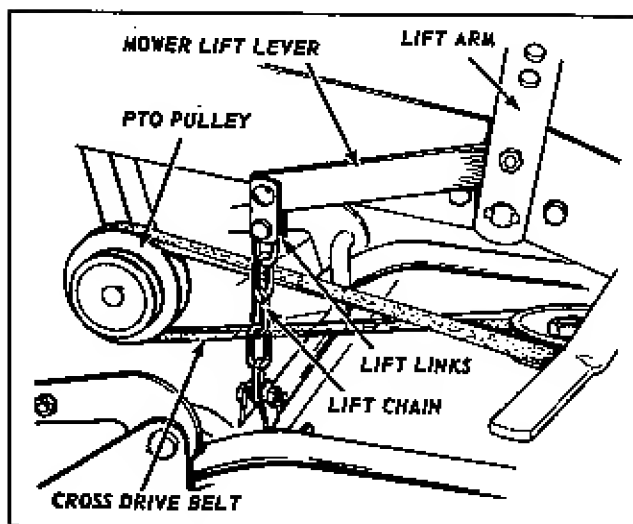

FIG. 3
3. Place the tractor lift lever in its rear position and attach the mower lift lever to the tractor lift arm on right hand side of tractor as shown in figure 3. Use hex capscREW, flatwashers, and hex nut furnished for this purpose.
4. Connect the mower lift chain to the lift lever by fastening the lift links in place with a pin and hair cotter as shown in figure 3.
5. Place the cross drive belt in position on the mower drive pulley. Give the belt a 90° twist towards the left hand side of the tractor and mount belt to larger pulley of power take-off as shown in figure 3. When installed in proper manner, the belt should run from the left side of the mower pulley to bottom side of power take-off pulley.